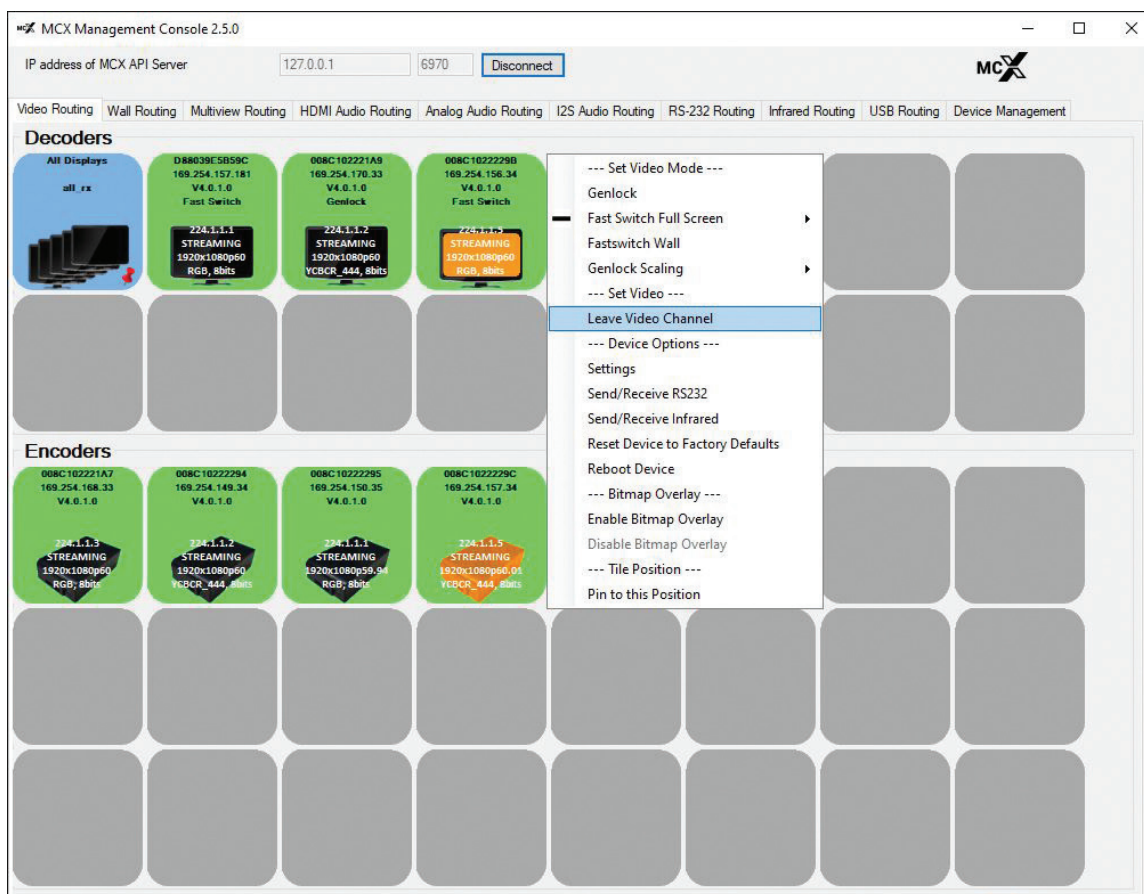

FIGURE 4-4. LEAVE VIDEO CHANNEL OPTION OF DECODER (RX) MENU
Refer to Figure 4-4, Leave Video Channel option of decoder (TX) menu.
Refer to Figure 4-4. Leave Video Channel option of decoder (TX) menu.